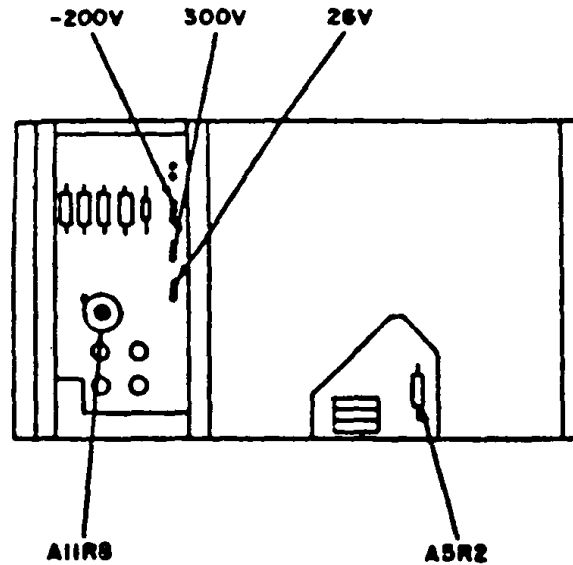

Figure 4. Test instrument - rear view.
(1) Set **POWER** switch to off.
(2) Connect multimeter to 300 V test point (fig. 4).
(3) Set **POWER** switch to **ON** and allow 10 minutes for warm-up and stabilization. If multimeter does not indicate between 288 and 312 V dc, perform **b** below.
**b. Adjustments.** Adjust **A11R8** (fig. 4) for a 300 V indication on multimeter (R).